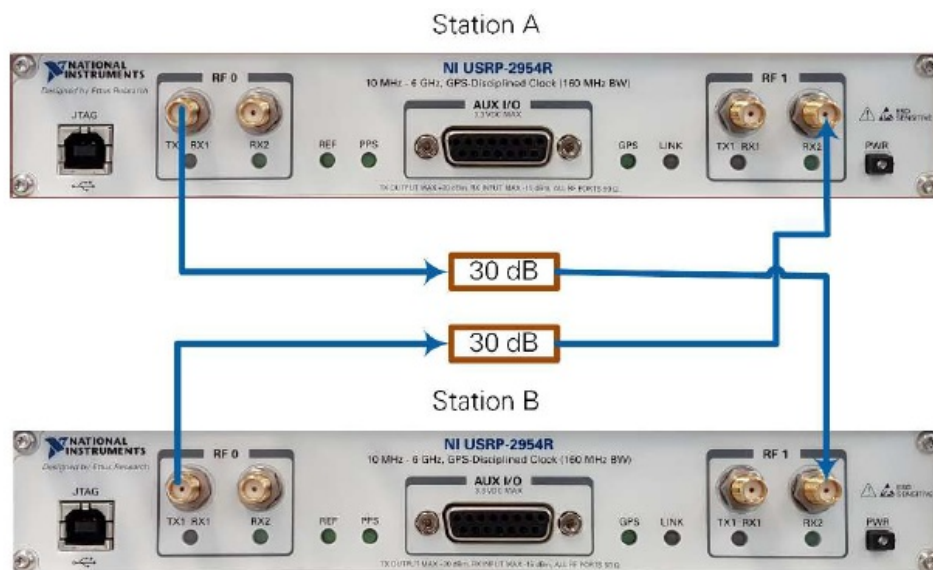

Figure 2 Cabled Connection of USRP RIO Devices
2. Complete the following steps to create RF connections as shown in Figure 2.